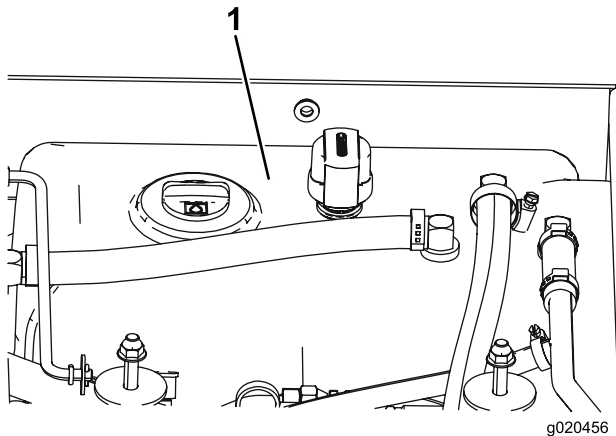

Figure 76
4. Fill the reservoir (Figure 76) with hydraulic fluid; refer to Checking the Hydraulic Fluid (page 55).